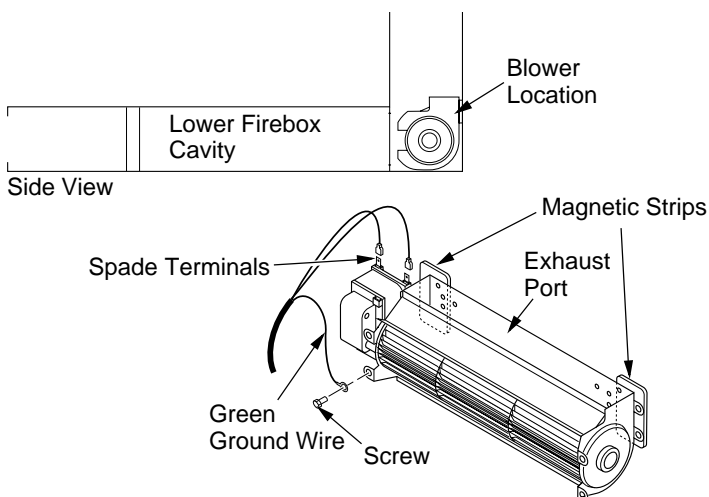

Figure 25 - Blower Model BK
1. Attach the power cord to the blower motor by firmly pushing the two female terminals at the end of the power cord onto the two spade terminals on the blower motor (see Figure 25).
2. Attach green ground wire from power cord to blower housing using screw provided (see Figure 25). Tighten screws securely.
3. Place the blower against the lower rear wall of the firebox outer wrapper with the exhaust port directed upward. The blower will fit inside the back opening and be held in position against the back wall by the magnets (see Figure 25).